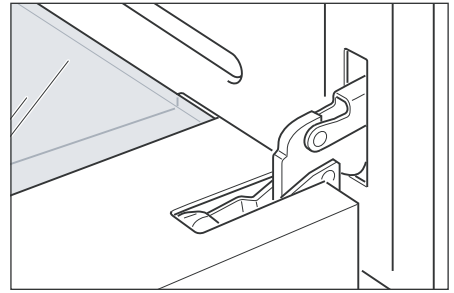

Fig.55a
- Fully open the oven door (Fig. 55a).